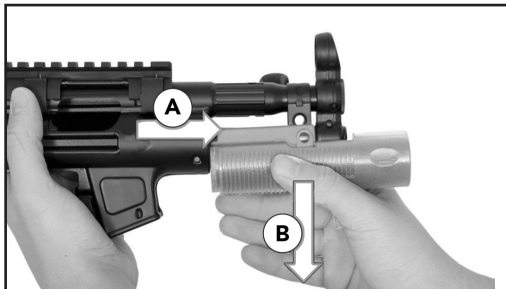

Fig. 38 – Remove pistol grip
7. Pull handguard towards muzzle ① and downwards ② to remove it (Fig. 38).